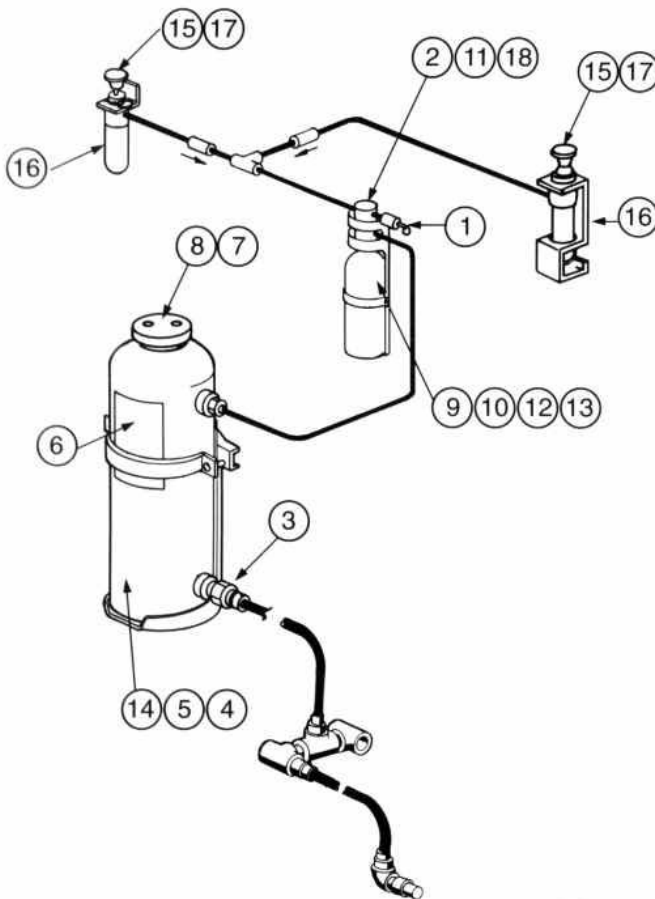

FIGURE 1
See Figure 1 when following the recharge steps.
- 3/4 in. Extended Discharge Supply Hose Line Connection. See Figure 1. (**NOTE:** Maximum of 24 in. from each adjacent tank to the common "Y" fitting.)
2. Each four nozzle agent distribution network will be connected to two adjacent tanks using a "Y" fitting. See Figure 1. **Six nozzles systems are not allowed.**